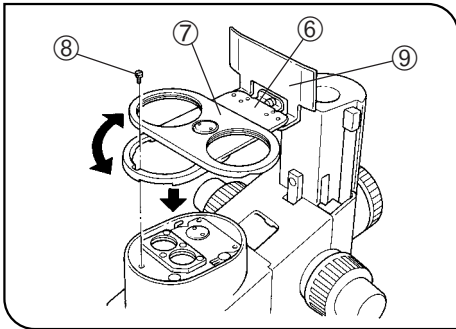

Fig. 31
5. Place the nosepiece mount ⑥ (with its objective mounts ⑦ facing upward) where the objective has been by aligning the screw holes. Using the Allen wrench (for M3 screws), clamp the revolver mount with the provided 3 clamping screws (M3 — 6 mm long). (Fig. 31)
★ As the screw holes may be hidden behind the objective mounts ⑦, clamp the nosepiece mount while rotating it. (Fig. 31)
7. Attach two objectives onto their respective objective mounts ⑦ by screwing. (Fig. 31)